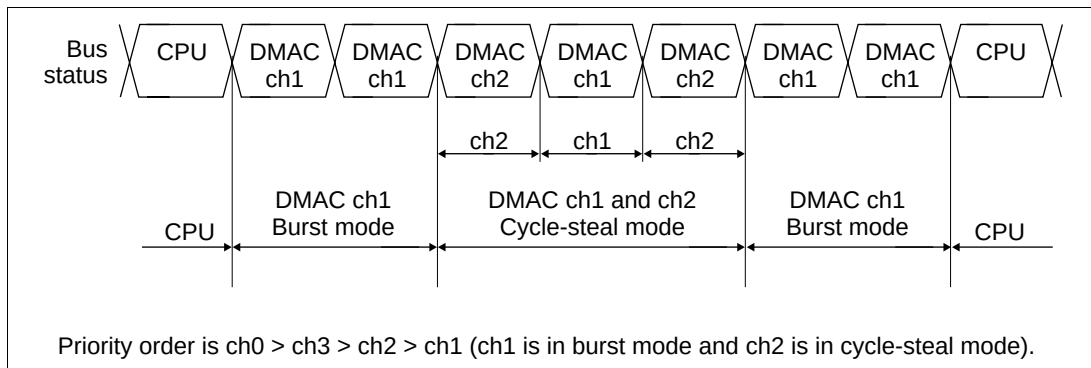

**Figure 9.12 Bus Handling when Multiple Channels are Operating**
**Bus Mode and Channel Priority Order:** When a given channel (1) is transferring in burst mode and there is a transfer request to a channel (2) with a higher priority, the transfer of the channel with higher priority (2) will begin immediately. When channel 2 is also operating in burst mode, the channel 1 transfer will continue when the channel 2 transfer has completely finished. When channel 2 is in cycle-steal mode, channel 1 will begin operating again after channel 2 completes the transfer of one transfer unit, but the bus will then switch between the two in the order channel 1, channel 2, channel 1, channel 2. Since channel 1 is in burst mode, it will not give the bus to the CPU. This example is illustrated in figure 9.12.